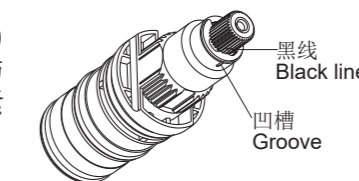

Fig.5
**注意：**确保拆卸、安装过程中不要转动温控阀轴。如不小心转动了阀轴，要调整阀轴使外齿上的黑线标识与相邻的塑料套上的凹槽对齐(Fig.5)，或者按前述方法进行调整。
**NOTE:** Do not turn the cartridge when reinstalling it. If you turn it accidentally, you should adjust it and be sure that the black line is correctly in line with the groove(Fig.5), or readjust as per the steps of verification and setting.